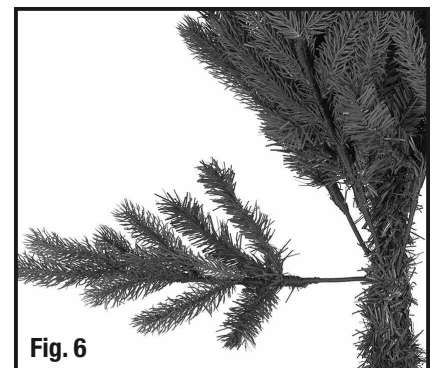

Fig. 6
6. The top section of the tree will have *wrapped* branches in place of hinged branches. Gently lower the branches and shape in a similar manner as the branches in previous sections (Figure 6).
The assembly procedure is the same, but unlike hinged tree branches, wrapped branches need to be individually lowered to position. Working your way up from the bottom, gently lower all branches from their upright setting by grasping the branch and pulling it downward (Figure 6). See **Branch Shaping** for proper shaping procedures.